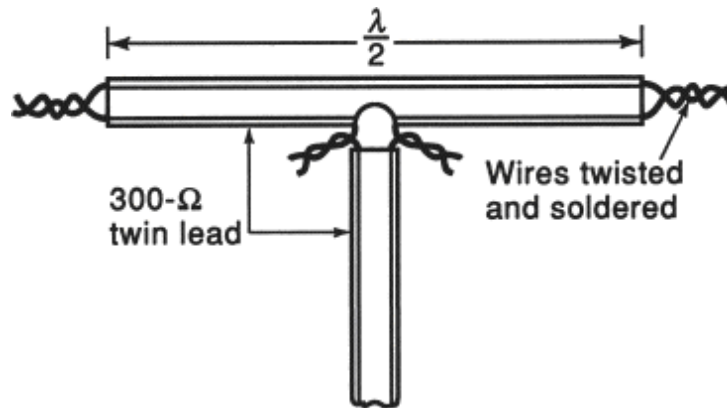

Fig. 16-1 Folded dipole construction with twin lead.
4. Strip both ends of the twin lead and twist the leads together, as Fig. 16-1 shows. Cut into the center of one conductor of the twin lead and attach the 300- Ω transmission line; see Fig. 16-1. The transmission line length is not critical, but it should be great enough to attach the line to the receiver and provide for movement of the antenna. A minimum length is about 5 ft, but more is better.